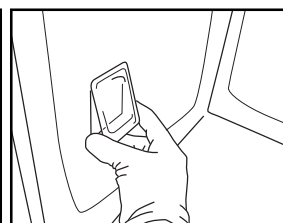

Fig. 7
5. Reposition the lamp cover, pushing it on firmly until it snaps into place (Fig. 7).